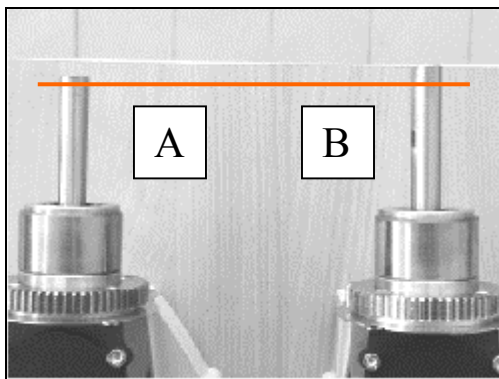

Fig. 73
- CAUTION! Do not confuse the different settings of the wheel suspension. They have different pulley shaft lengths. (Fig. 73)